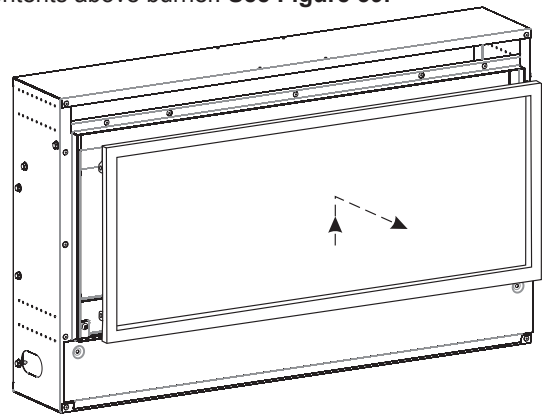

Figure 39
3. Remove screen by lifting slightly. Pull screen out. Remove contents above burner. **See Figure 39.**